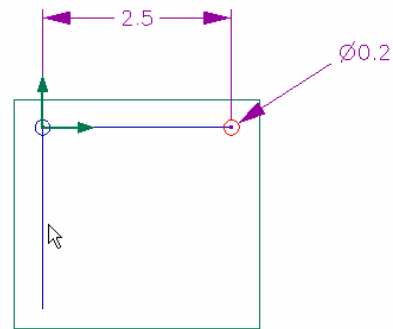

Figure 4. Placing right hole.
7. Place a 0.2" Diameter hole at the right end of this line as shown in figure 4.
8. Draw a straight line from the origin down a short distance. This will be the axis used for mirroring the right hole. It is shown by an arrow in figure 4.